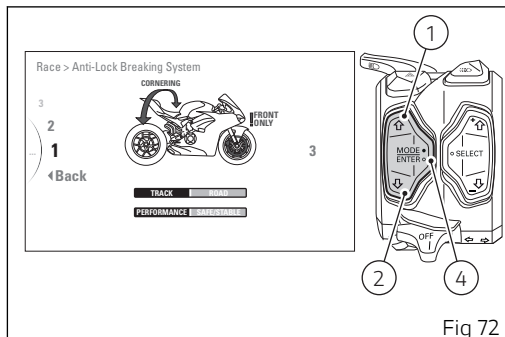
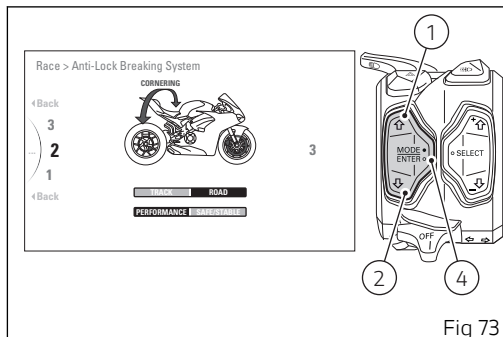

Fig 72
Fig 73
With buttons (1) and (2) select the new level of intervention desired. For each highlighted level, the corresponding paired value in the central table (highlighted with a black background) will be displayed. Moreover, the braking system intervention level will be indicated in Light Blue: **"FRONT ONLY!"** (Fig 72) for front brake active only, **"CORNERING"** (Fig 73) for Cornering function active. Once the desired level is highlighted, press button (4) to memorize the new selection. To exit the menu and go back to previous page highlight the "◀ Back" indication and press button (2).